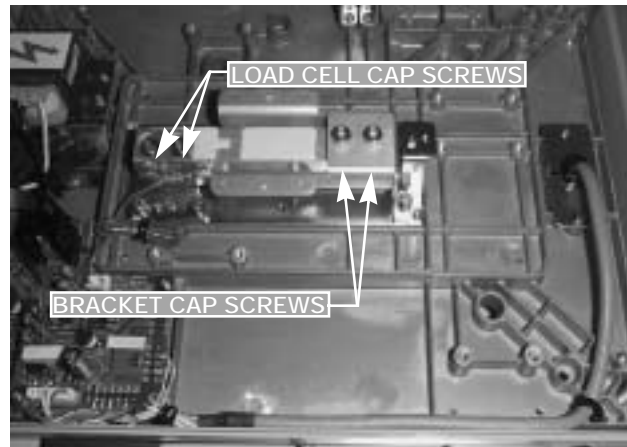

Figure 2-13. Remove Load Cell Bracket
8. If replacement load cell does not include bracket, remove two 6 mm x 20 mm socket head load cell cap screws from load cell bracket (Figure 2-13). Remove load cell bracket.
9. Remove two 6 mm x 25 mm load cell cap screws (Figure 2-13). Remove load cell mount spacers.